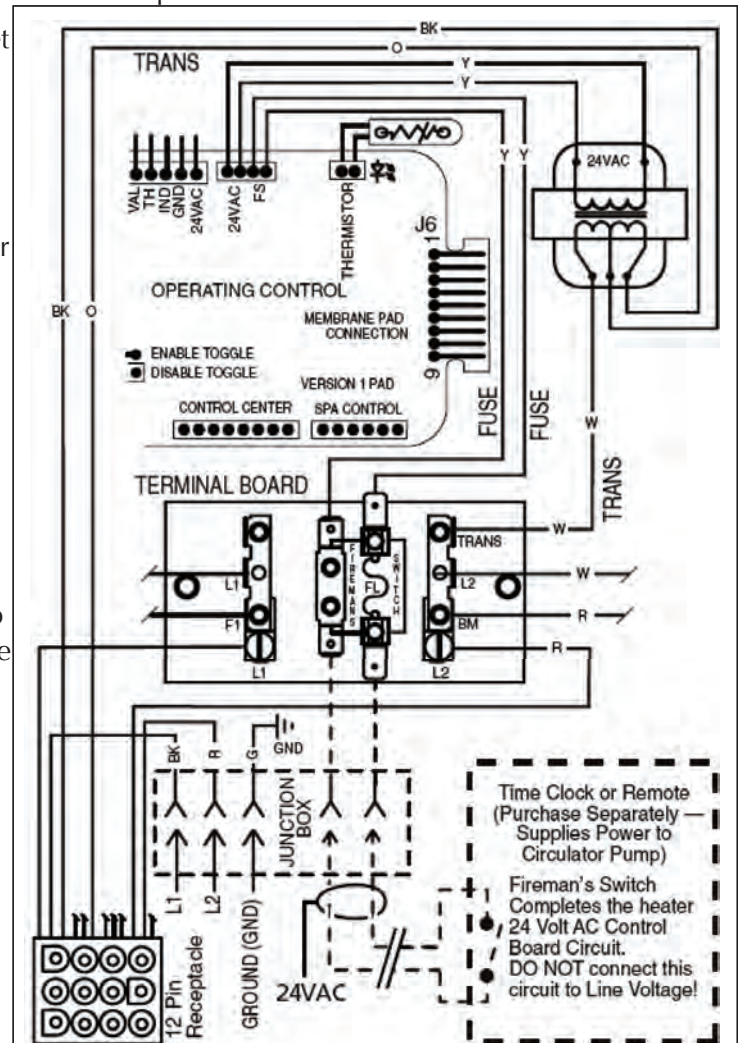

Figure 3-23
5. Connect two #14 gauge wires, designed for use in hot environments, to the two black wires, marked heater connection, on the panel mount receiver in the I-Wave Control Center and attach the other end to the two spade terminals at the heater. You can also cut the yellow jumper wire and wire connect the black wires to each yellow wire. (See Figure 3-23.)